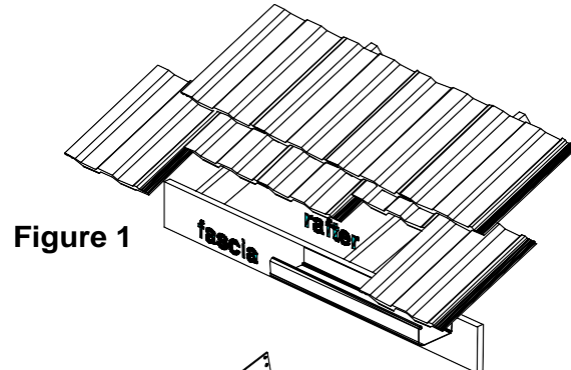

Figure 1
1. Slip three (3) tiles to expose two (2) rafters as per figure 1.